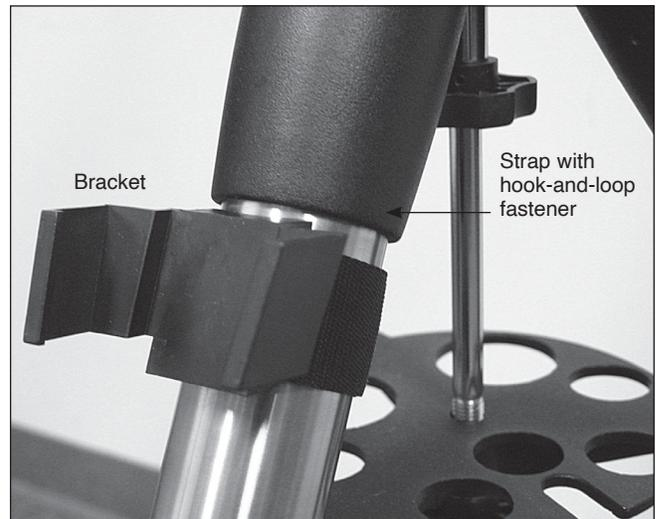

Figure 4. The hand controller bracket should be fastened to a tripod leg.
3. Strap the included hand controller bracket to a tripod leg above the tripod center support tray using the hook-and-loop strap, as shown in **Figure 4**.